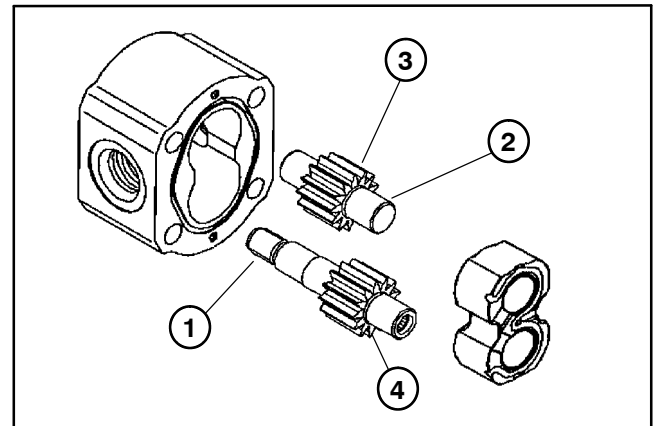

Figure 80
3. Inspect drive gears and idler gears for the following (Fig. 80):